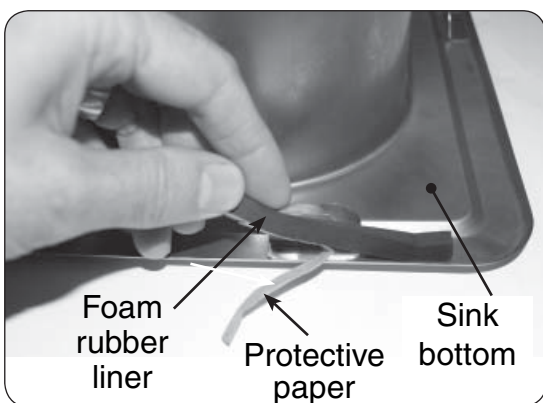

Fig. 3-2
2. Attach the adhesive side of the foam rubber liner around the under side of the sink lip (see Fig. 3-2).